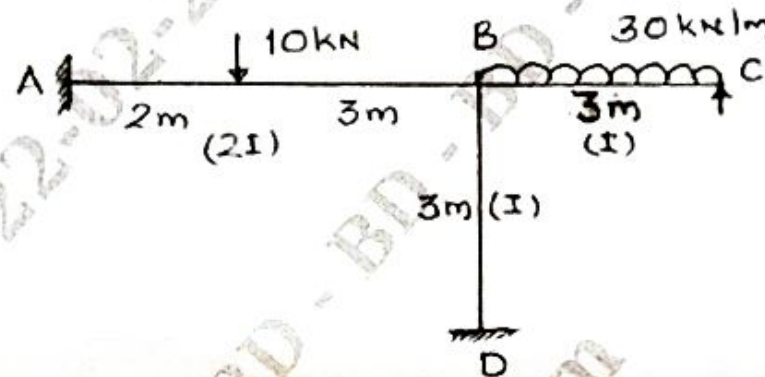

Fig.Q10
- 10 Analyze the portal frame shown in Fig.Q10 by stiffness matrix method. Draw BMD and elastic curve.